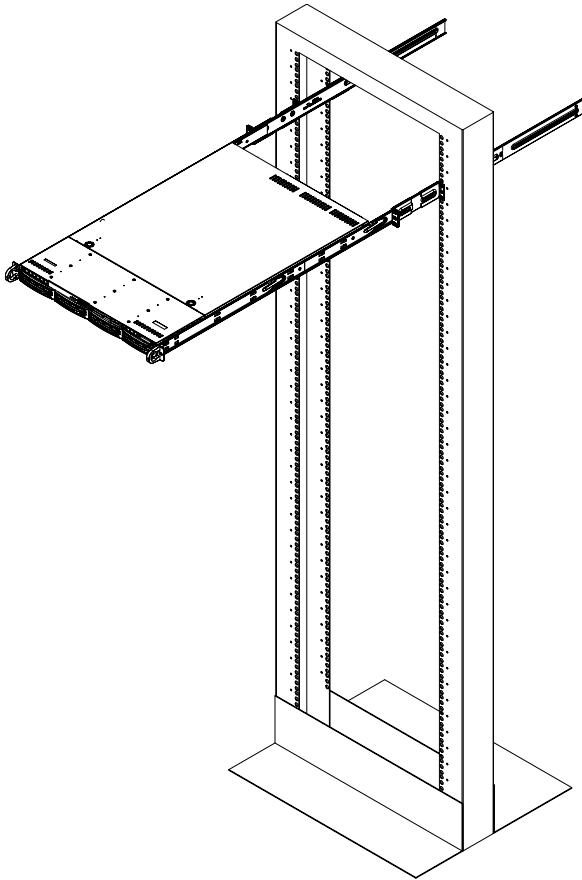

Figure 2-4. Installing the Server into a Telco Rack
3. Finish by sliding the chassis into the rack and tightening the brackets to the rack. See Figure 2-4.